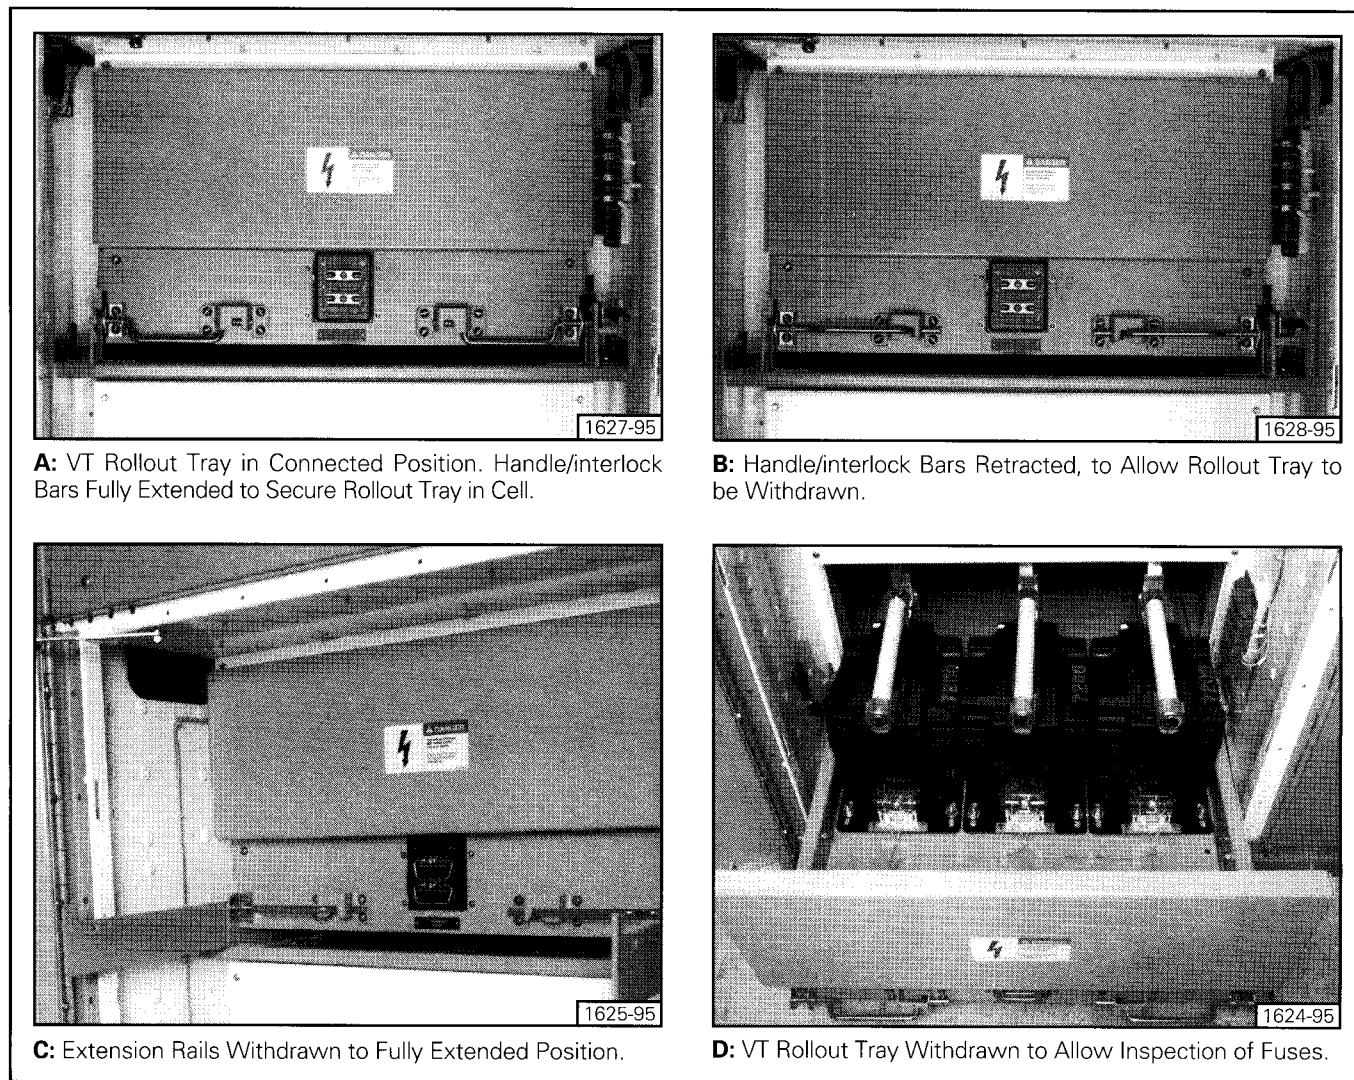

Figure 30. VT Fuse Rollout Tray Operating Sequence
- **To Disconnect VT Rollout** (Refer to **Figure 30**) For disconnecting voltage transformers from the primary circuit, grasp the handle/interlock bar on each side of the rollout tray, and rotate the handle upward while pulling the handle horizontally towards the center of the unit. The handle will lodge in a "notched" area in the mounting bracket, and the interlock portion of the handle will be withdrawn from the guide rails on the side of the cell. When both handles are operated to the raised position, the rollout tray will be free to move. Withdraw the extension rails on each side of the cell to their fully extended position. Then, using the handles on the rollout tray, pull the tray in a smooth motion from the fully inserted (connected) position to the fully withdrawn (disconnected) position.